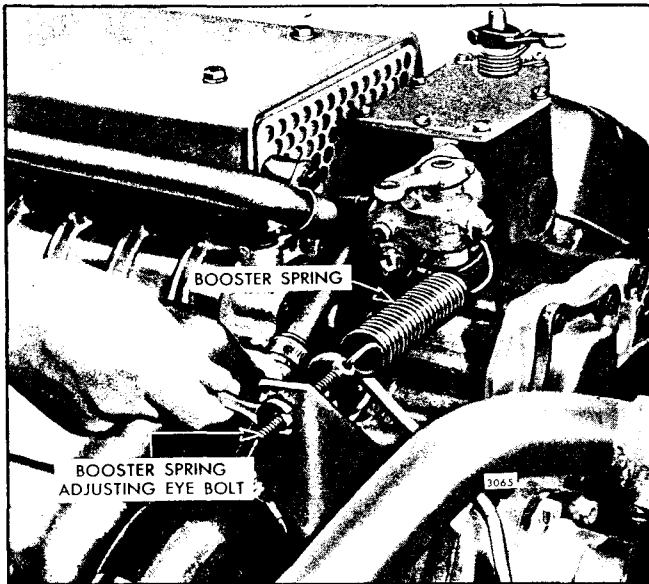

Fig. 7 - Adjusting Booster Spring
1. Refer to Fig. 7 and disconnect the booster spring and the stop lever retracting spring.
1. Refer to Fig. 7 and loosen the booster spring retaining nut on the speed control lever. Loosen the lock nuts on the eye bolt at the other end of the spring.